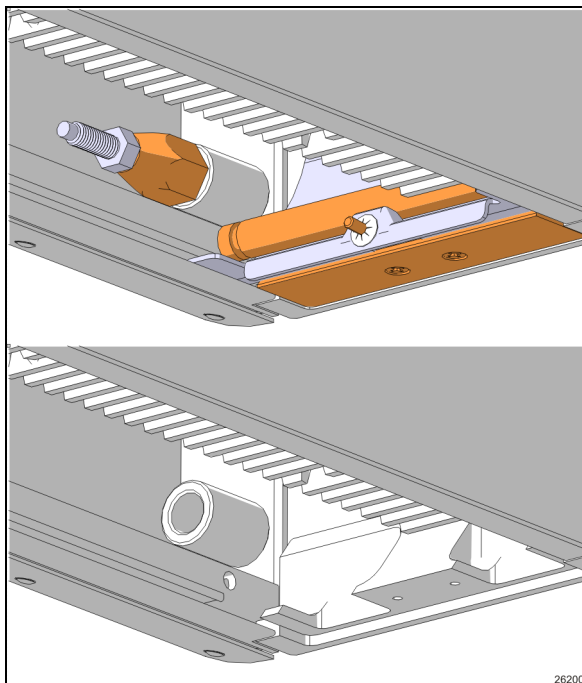

FIGURE 16: REMOVAL FOR PINION CLEARANCE.
3. Some items need to be removed to provide clearance for the pinion. (Figure 16, top image)